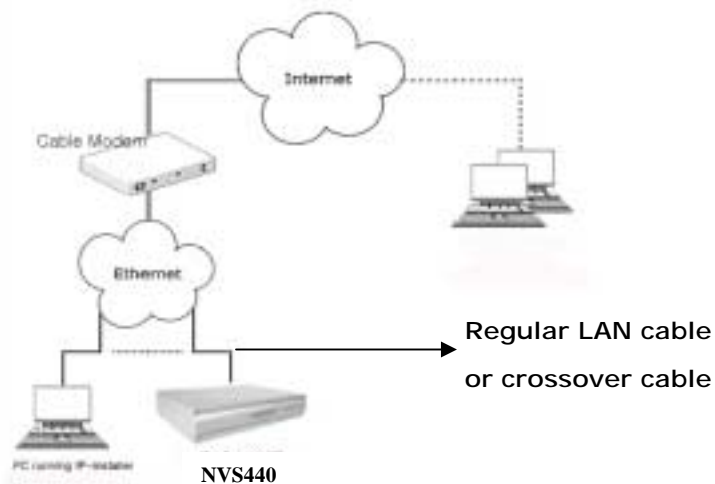

Figure 3-5 Connecting the NVS440 to a Cable Modem
3. Remove the crossover cable and connect the NVS440 to the network using standard LAN cable as shown in Figure 3-5. Check if you can receive video data when connecting to NVS440 using the viewer program.